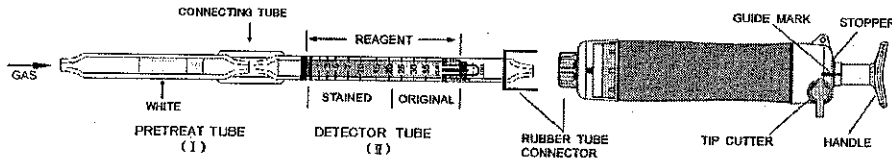

Fig.1
- ① Break both ends of the pretreat tube (I) and detector tube (II), and connect each end of the pretreat tube (I) and detector tube (II) with connecting tube as shown in Fig. 1.
- ② Insert the detector tube (II) into the aspirating pump securely as shown in Fig.1. (Arrow marks shall point to the pump.)
- ③ Align the guide marks on the shaft and stopper of the aspirating pump.
- ④ Pull the pump handle at a full stroke until it locks and wait for 1 minute or until the completion of sampling is confirmed with the flow indicator of the pump (See descriptions about the flow indicator in the instruction manual of the pump).
- ⑤ Push back the handle without removing the detector tube from the rubber tube connector so that air in the pump will be discharged perfectly.
- ⑥ Then repeat the steps ③~⑤ twice more.
- ⑦ On completion of sampling, read the scale at the maximum point of the stained layer.